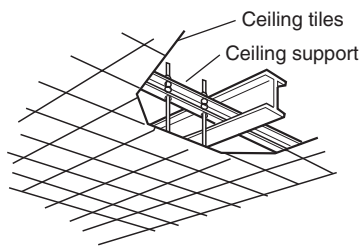

Fig. 1-35
- Use existing ceiling supports or construct a suitable support (Fig. 1-35).